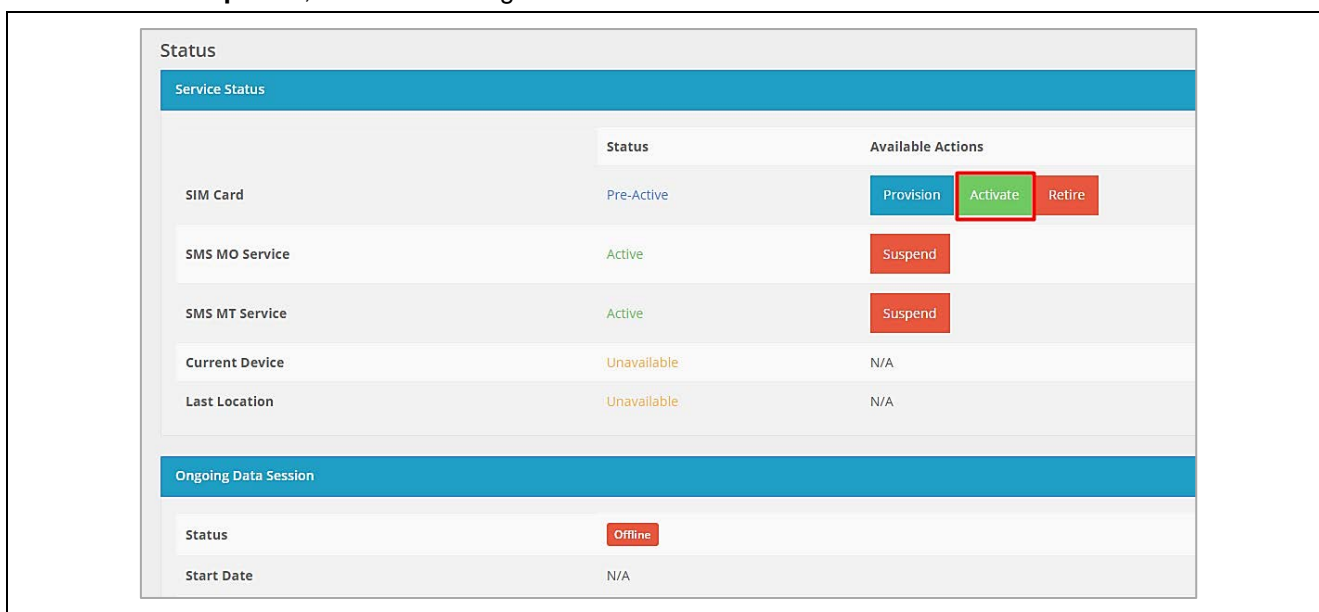

Figure 35. Activating the SIM Card on Truphone
7. You can open the page using the link <https://account.truphone.com/login> and select Home > SIM Cards > ICCID#xxx", and "Activate" the SIM from the status page as shown in **Figure 35. Activating the SIM Card on Truphone**, the status changes from Pre-Active to Active.